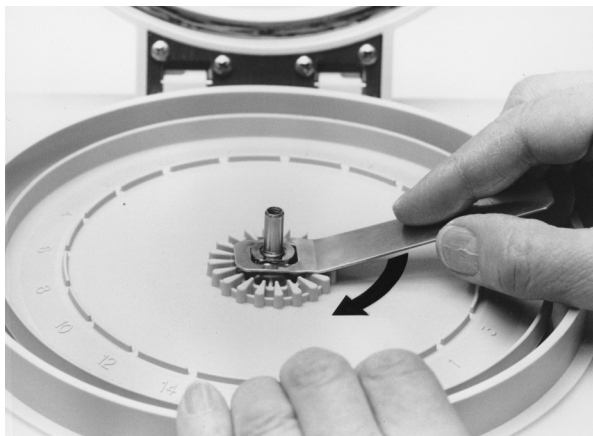

Figure 3-5. Tightening Rotor with Head Nut Wrench
- Thread the head nut onto the shaft finger-tight, by turning it **clockwise**. Tighten with a light torque using the head nut wrench supplied with the centrifuge (Figure 3-5). **DO NOT OVERTIGHTEN.** Turn nut 1-2 tube positions to tighten.